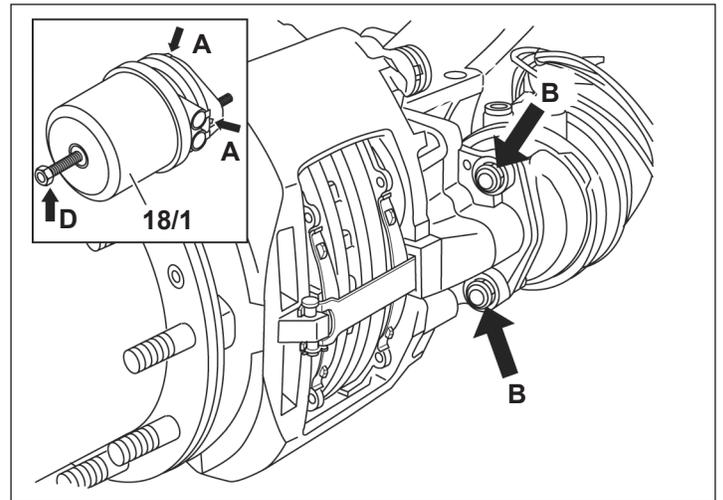

Figure 24 - Spring Brake Installation
Before installing the brake chamber, the actuator flange must be cleaned and inspected (see Figure 24, arrow C). Consult the vehicle manual. The spherical cup in the lever (19) must be greased with white grease (Part No. II14525 or II32868).
Note: Where a new spring brake chamber is being installed, note that typically drain plugs are installed (see Figure 24, arrows A). After installation, remove whichever plug is at the lowest position. Be sure that all other drain holes remain plugged. The selected drain hole must be aligned downwards (or within ±30°) when installed on the vehicle.
Apply air to release the spring brakes (parking brakes) by using the dash-mounted air control valve. Thread the release bolt (Figure 24, arrow D) into the spring brake, using a torque of 5 to 15 ft-lbs (20 to 70 N•m) to uncage the air released spring force on the pushrod.